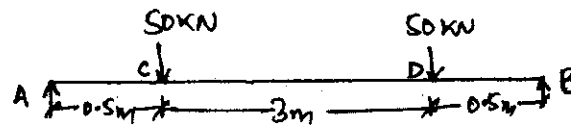

Fig. Q5 (b)
b. Draw SFD and BMD for the beam shown in Fig. Q5 (b). (12 Marks)